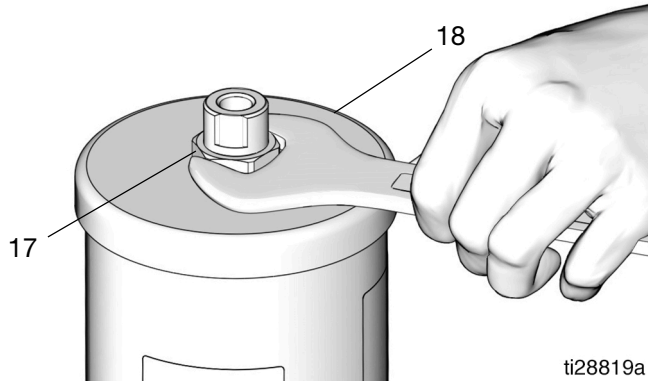

FIG. 13
9. The cover (18) is spring loaded. Push on the top of the cover, and at the same time, use a wrench to loosen and remove the nut (17) from the reservoir cover (18) (FIG. 13).